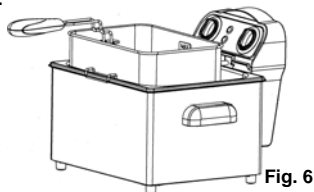

Fig. 6
4. Lift up the frying basket by the handle. Place it on the oil reservoir and allow the food to drain for a minute. (Fig. 6)